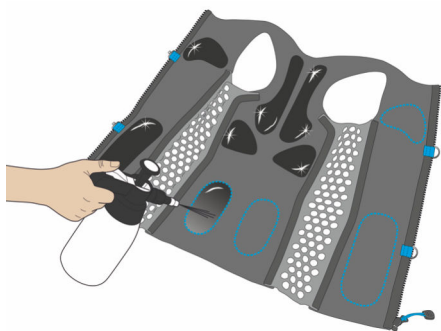

Fig. 34: Moistening the i-body®
2. ➤ Spray the i-body® with water until a visible film of water has formed on the electrodes (Fig. 34).